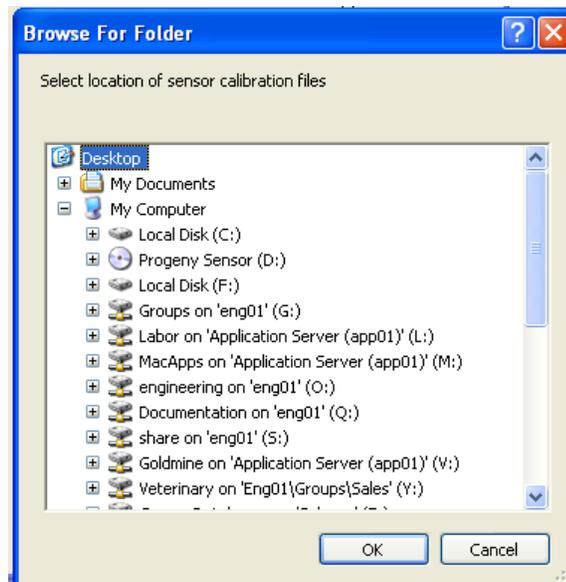

Figure 83
8. Highlight the entry for “Progeny Sensor” (see Figure 83 on page 53).
9. Click “OK” (see Figure 83 on page 53).